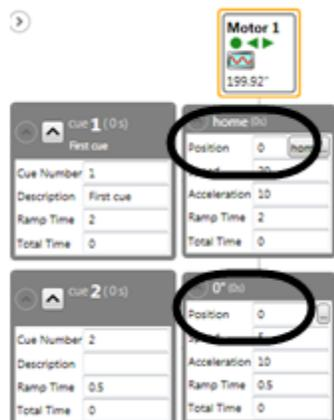

Figure 253
*In the example in Figure 253, the target **Position** in each cue is “0.”*